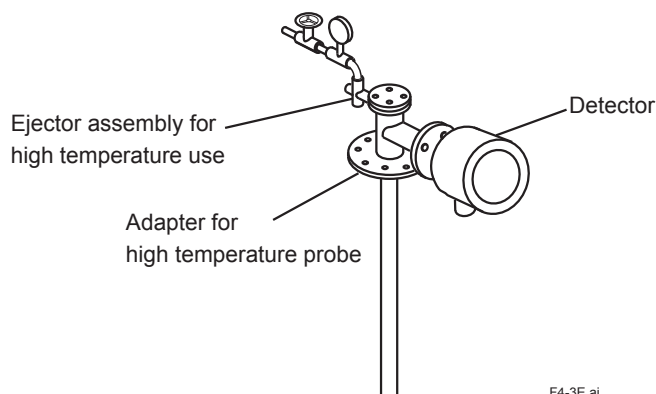

Figure 4.3 Mounting the ejector assembly
- If a high temperature detector is used and the sample gas pressure is negative, connect an ejector assembly to the sample gas exhaust hole of the high temperature probe adapter (see Section 4.1.4, Figure 4.3).
- If the sample gas is under negative pressure, connect the ejector assembly (E7046EC/ E7046EN) as illustrated in Figure 4.3. Mount the pressure gauge as close as possible to the ejector assembly. However, if the ambient temperature is too high, mount the gauge in a location with a temperature below 40°C.